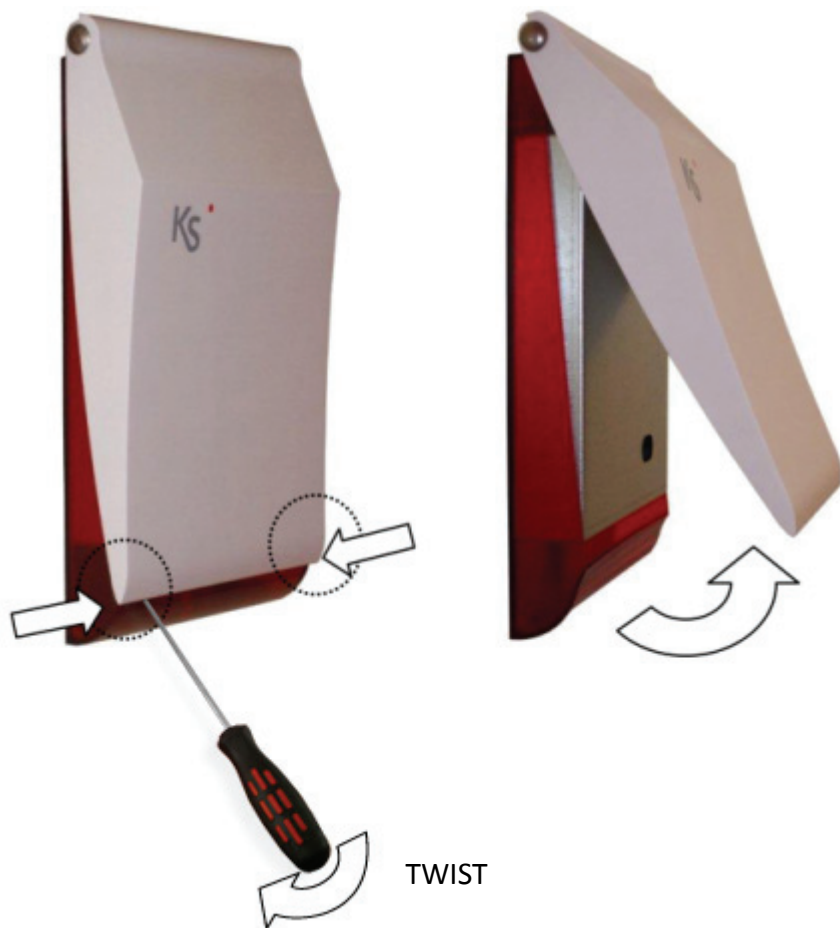

Figure 3. Siren opening.
- 1 Insert stainless steel hinges (supplied) and screw the nuts inside avoiding to tighten (2)
- 2 Open the PC cover forcing the corners with a screwdriver (Figure 3)
- 3 Remove the docking screw of the metallic undercover (4)
- 4 Remove the undercover pulling it from above, taking care not to damage the electronic circuit (3)
- 5 Drill the fixing bottom holes (7)
- 6 Pass-through the cable that spring from the alarm station in the eyelet (10)
- 7 Lock with fischer plug the PC Base on the wall (7)
- 8 Set programming jumper (universal version **imago™** only) (23), (page 14)
- 10 Connect cables to connection clamps (19), (page 19)
- 12 Close the undercover and screw on (3)
- 13 Close the cover (Figure 3)